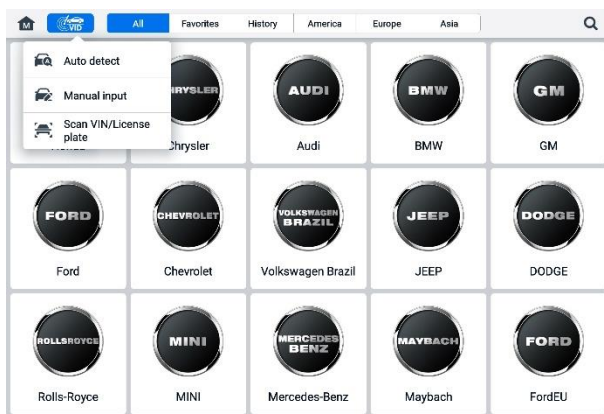

Figure 6-6 VID Button Screen
2. Tap the **VID** button on the top toolbar (see Figure 6-6 VID Button Screen).
Tap **Scan VIN/License** in the dropdown list (see Figure 6-6 VID Button Screen), the camera will be opened. On the right side of the screen, from top to bottom, three options are available: **Scan Bar Code**, **Scan VIN**, and **Scan License**.